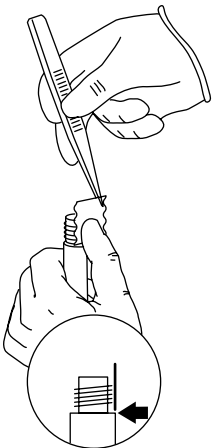

Fig. 4
5. Hold the outer body oriented with the threads at the top. Align the straight edge of the membrane against the threaded shoulder and hold the membrane with your thumb. See **Figure 4**.